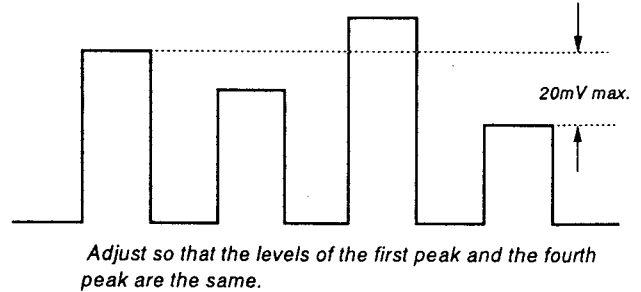

Fig. 9
5. Using **SUB CHROMA NORMAL** , adjust so that the tops of the waveform line up as in the diagram below. (Fig. 9)